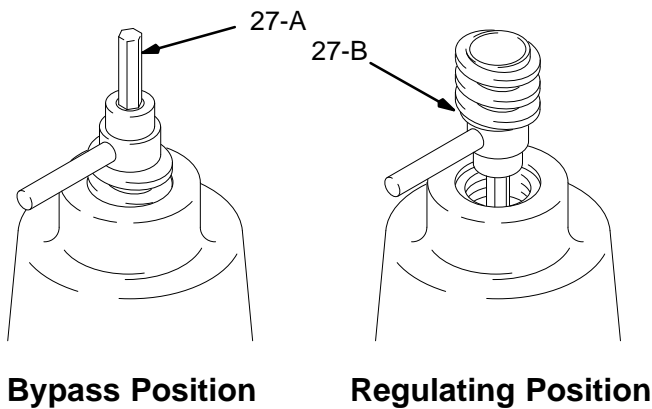

Fig 2
1. Before opening the fluid ball valve or starting the pump, insert the hex end of the regulator key (27) into the adjusting screw (9) and turn it counterclockwise, all the way, to relieve the spring tension. See Fig 2, **Regulating Position**.
3. Screw the threaded end of the adjusting key (27), as far as possible into the regulator cap to open the regulator valve. See Fig 2, **Bypass Position**.
3. Using the hex end of the key (27) turn the adjusting screw (9) all the way counterclockwise to relieve spring tension. See Fig 2, **Regulating Position**.